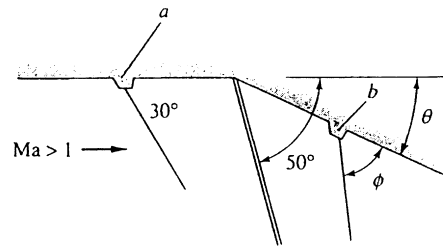

Fig. P9.129
**9.129** Air flows at supersonic speed toward a compression ramp, as in Fig. P9.129. A scratch on the wall at  $a$  creates a wave of  $30^\circ$  angle, while the oblique shock has a  $50^\circ$  angle. What is (a) the ramp angle  $\theta$ ; and (b) the wave angle  $\phi$  caused by a scratch at  $b$ ?
**Solution:** Referring to Fig. P9.129, we already know that  $Ma_1 = 2.0$  because the Mach wave angle at point  $a$  is  $30^\circ$ . Now we know the Mach wave angle inside the shock: